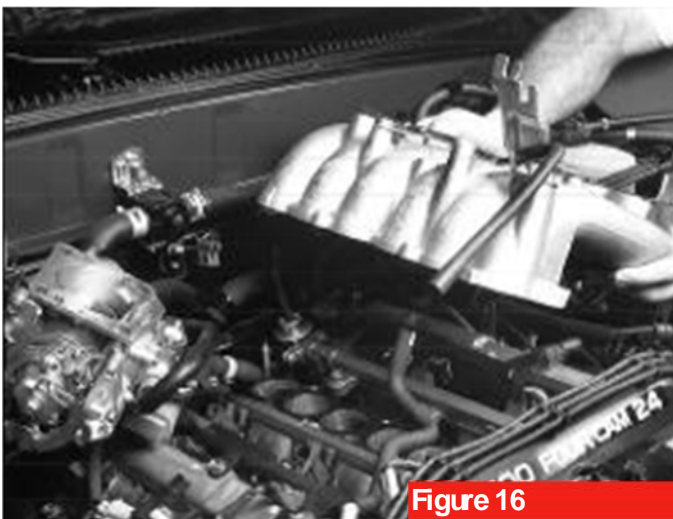

Figure 16
23. Remove the lower manifold (figure 16) and save the factory nuts, washers and two short bolts, as they will be reused.